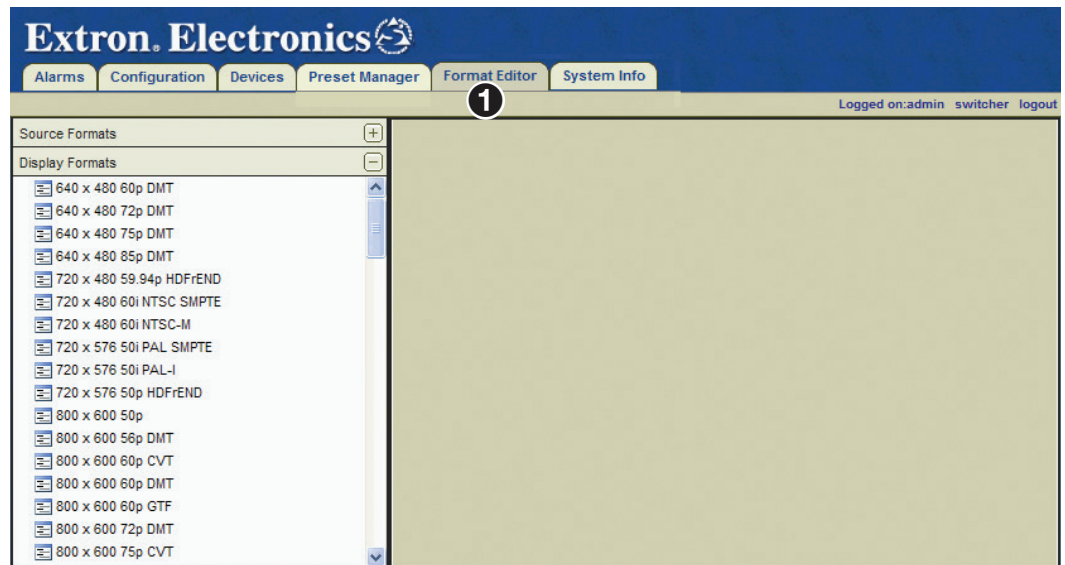

Figure 124. Format Editor Page
This page is accessed by selecting the **Format Editor** tab (see figure 124, ❶).